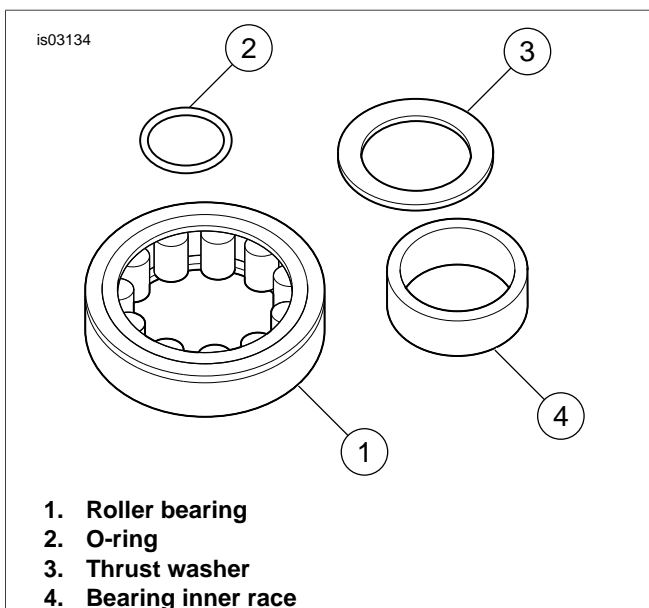

Figure 1. Rear Cam Roller Bearing Kit
1. See Figure 1. Install rear cam roller bearing kit (Figure 10, item 8) onto rear camshaft.